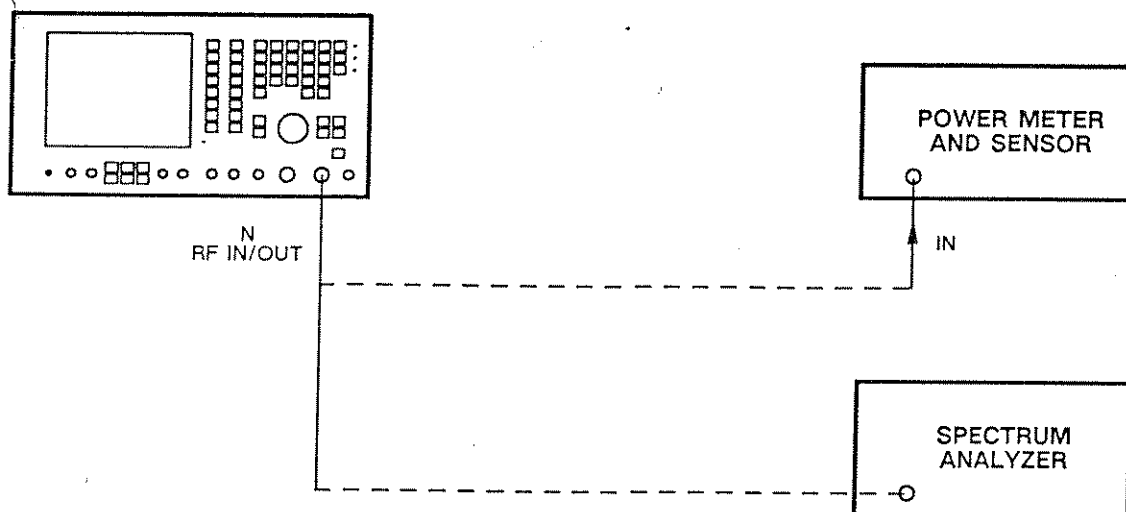

Fig. 6-21 Test equipment connections for RF generator output level
- (1) Connect the power meter through its 6920 sensor to the RF IN/OUT N socket. See Fig. 6-21.
- (2) On the 2955B, set the MODE to RECEIVER TEST, GEN FREQ to 300 MHz, LEVEL to -20.5 dBm, INC to 1 dB, MOD to OFF and RF IN/OUT socket to N.
- (3) On the power meter, check that the reading is -20.5 dBm ± 1.8 dB.